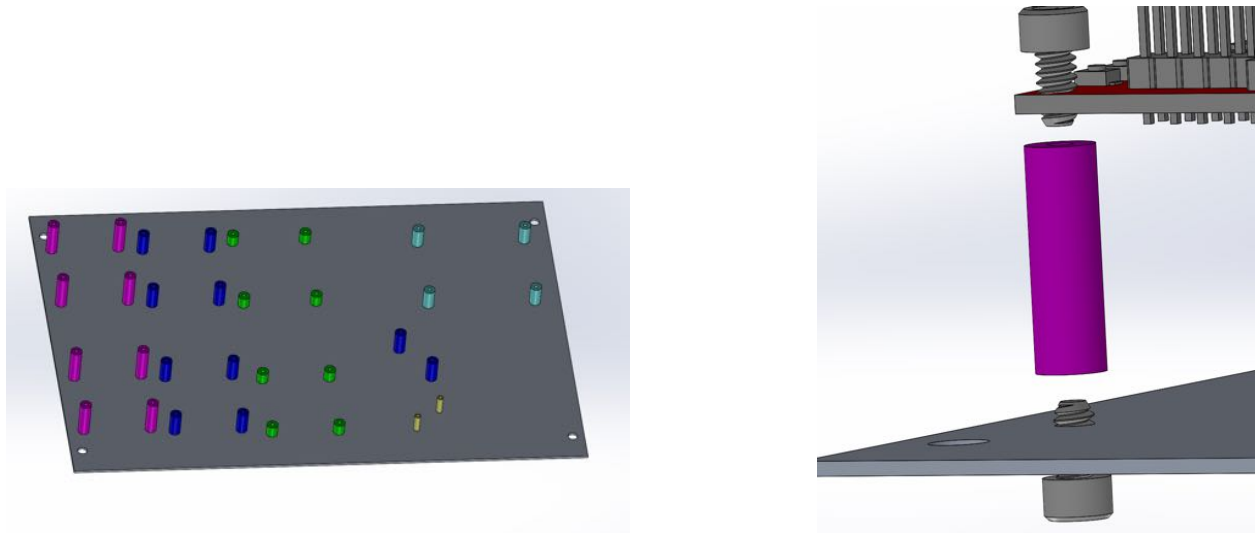

Figure 7: Electronics Board Step 1
1. **Attaching the Standoffs** There are a few different standoffs here. By using different standoff heights, we gain access to the micro USB port on each of the individual RoboClaws. The Raspberry Pi also has its own metric standoffs. In Figure 7, the colors correspond to the following parts: **Green:T4**, **Blue:T5**, **Pink:T6**, **Cyan:T7**, **Yellow:T8**. Use the screw that corresponds to the spacer or standoff used.